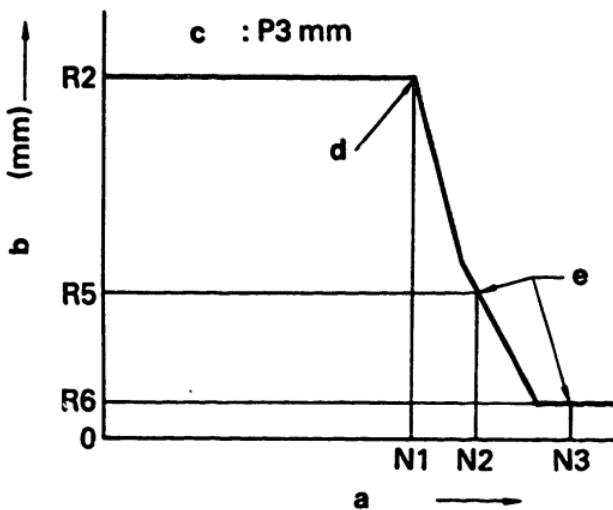

Fig. 69
1. Perform this adjustment with negative pressure maintained at P3. (Fig. 69)